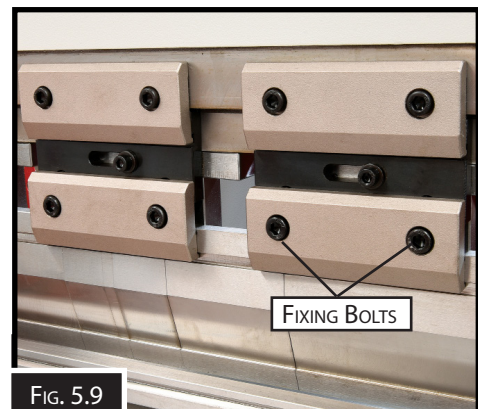
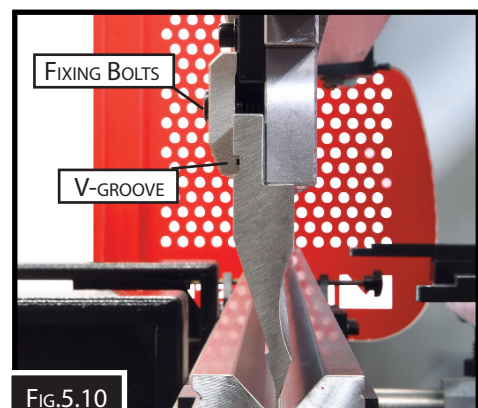

FIG. 5.9
FIG.5.10
2. Press MENU Button (Fig 5.9)
3. Press "Other menus" Button (Fig 5.10)
1. Loosen the fixing bolts of the punch clamping plate or plates. (Fig.5.9) The punch drops onto the V-groove of the die. (Fig.5.10)
1. Slide the punch into the V-groove of the die as shown. (Fig.5.9)